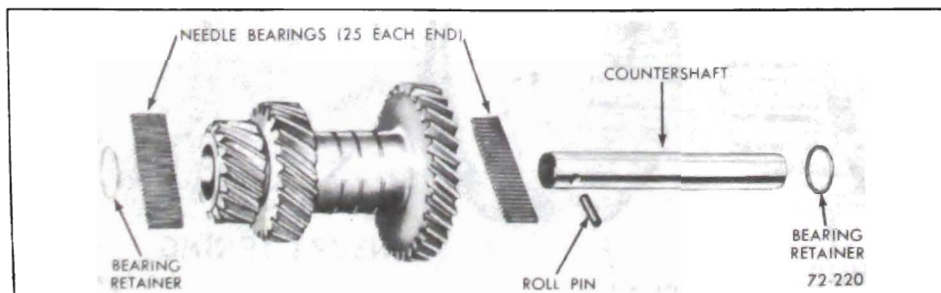

Figure 72-220 - Exploded View of Countershaft
2. Assemble the countergear alignment Tool J-21775, bearings, thrust washers, and place in bottom of case. The countergear will remain in the bottom of the case until the mainshaft and main drive gear have been installed. See Figure 72-220.